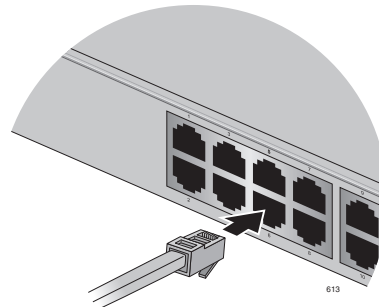

Figure 12. Connecting the Twisted Pair Data Cables
1. Connect the twisted pair data cables to the RJ-45 ports on the switch, as illustrated in Figure 12.